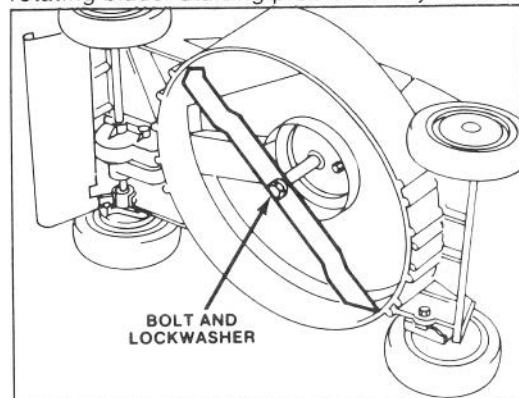

Figure 18
3. Tip mower on its left side (Fig. 18). Avoid rotating blade. Starting problems may result.
5. **REMOVING BLADE** — Grasp end of blade using a rag or thickly padded glove. Remove blade bolt, lockwasher and blade (Fig. 18).